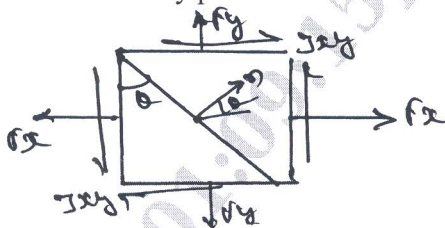

Fig Q3(a)
- 3 a. An element of unit thickness is subjected to the mutually perpendicular stresses  $\delta_x$  and  $\delta_y$  and shear stress  $\tau_{xy}$  as shown in Fig Q3(a). Determine equation for normal stress on arbitrary plane and shear stress on an arbitrary plane.